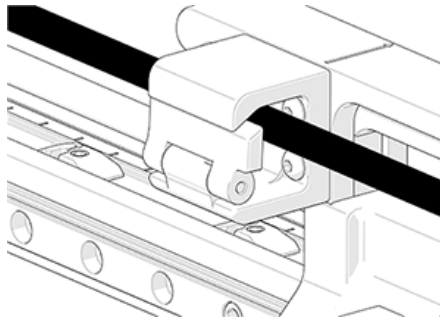

Figure 3-15 Carrier cable clip
2. Insert the necessary cables and hoses (see Figure 3-15 on page 53).